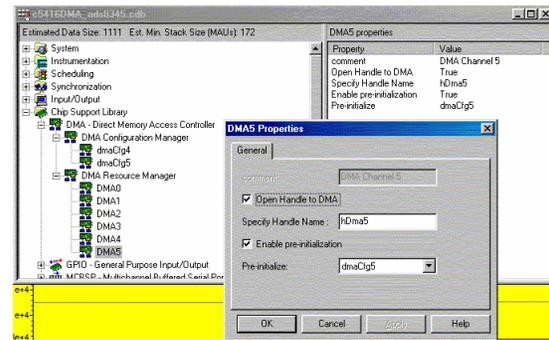

Figure 23. DMA Channel 5 Resource Link
9. Highlight DMA5 and select properties. Check Open Handle and Enable pre-initialization as shown in Figure 23. Select Pre-initialize dmaCfg5 from the menu.